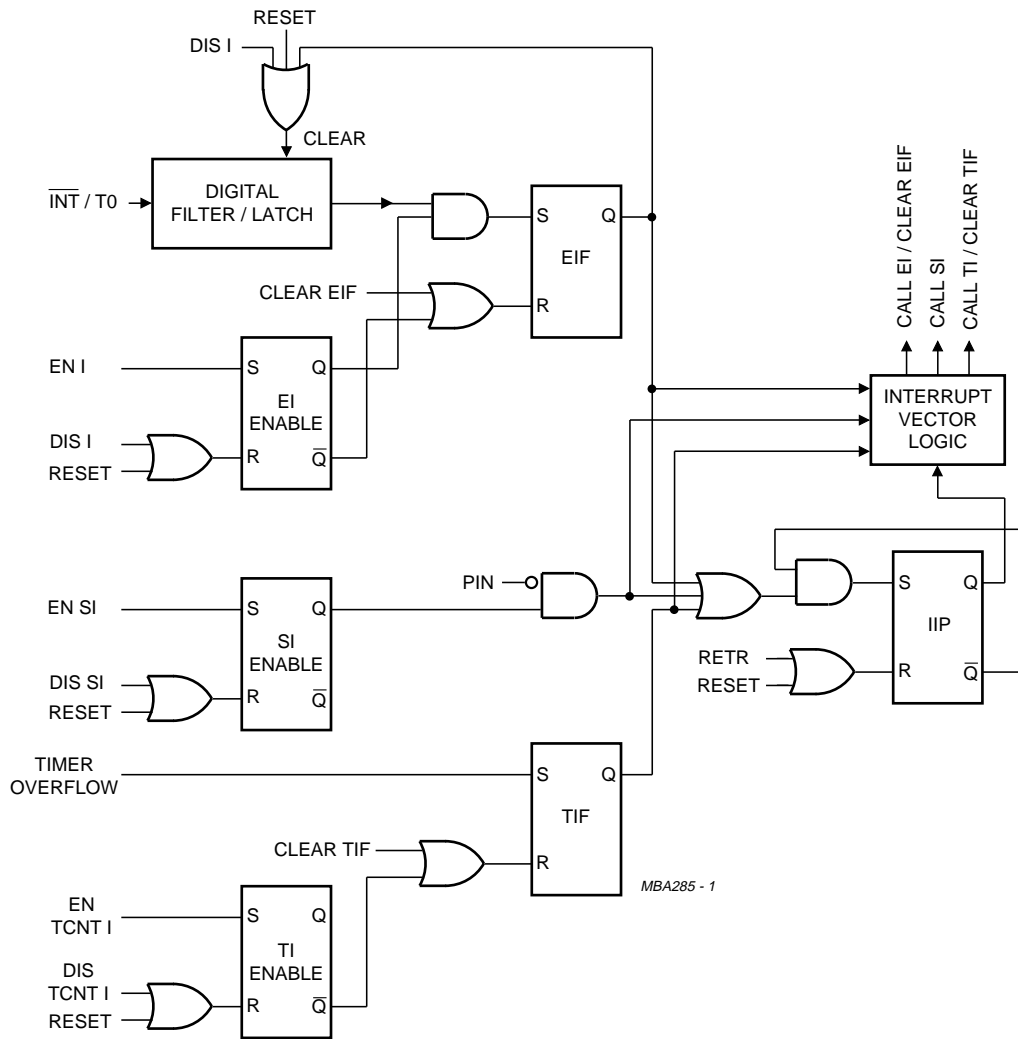

Fig.7 Simplified interrupt logic schematic (the R input overrules the S input for all flags).
An interrupt request is only sensed if the corresponding enable flag is set (see Fig.7). When the request is honoured, the contents of the Program Counter and bits 4, 6 and 7 of the Program Status Word are saved on the Program Counter stack. The Program Counter is loaded with the appropriate interrupt vector, thereby indicating the beginning of the interrupt routine. Since the Accumulator is not automatically saved, it must be saved and restored by user software. The interrupt routine must be terminated by the RETR (return and restore) instruction. At least one instruction of the main program will then be executed before another interrupt routine is entered. To avoid erroneous real-time programs, a few words of caution:
- Subroutines and nested subroutines called from the interrupt routine must all end with RET since RETR clears the Interrupt In Progress flag (IIP), as a side-effect (see Figs 7 and 8). Further pending interrupts would then interfere with the interrupt routine in progress.
A HIGH-to-LOW transition on the  $\overline{\text{INT}}/\text{T0}$  pin is latched in the digital filter/latch if the LOW state exceeds 7 clock periods after a HIGH state of more than 4 clock periods. If the external interrupt is enabled the External Interrupt Flag (EIF) is also asserted, thus constituting a valid external interrupt request. As soon as the IIP is clear, indicating that no interrupt routine is in progress, the external interrupt is invoked by a forced CALL to location 3. The EIF is simultaneously cleared (see Figs 7 and 8). The interrupt routine may acknowledge the
If the timer/event counter interrupt is enabled, a timer/event counter 1 overflow sets the Timer Interrupt Flag (TIF). As soon as IIP is clear, meaning that no interrupt routine is in progress, the timer/event counter interrupt routine is invoked by a forced CALL to program memory location 7. The TIF is simultaneously cleared (see Figs 7 and 8). Execution of a DIS TCNTI (disable timer/event counter interrupt) instruction cancels a stored interrupt request by clearing TIF.